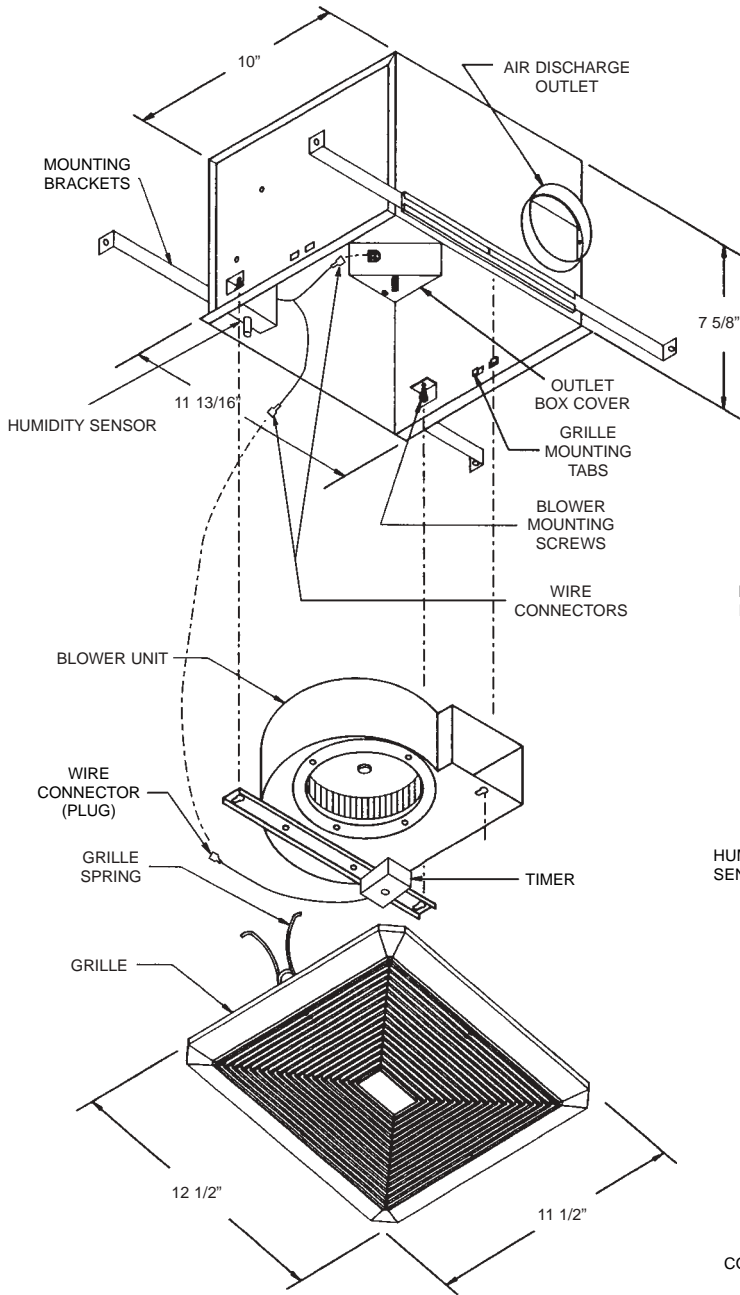

FIG. 8
2. Loosen three screws securing blower unit to housing and slide it toward outlet box. Carefully lift and tilt blower unit and remove from housing. Pull motor plug from receptacle. Pull humidity sensor plug from receptacle if applicable. See Figs. 8 & 9.
8. Push humidity sensor plug into receptacle, if applicable. Push blower motor plug into receptacle and carefully replace blower unit. Reverse procedure as noted. Tighten screws securely. See Figs. 8 & 9.
10. Squeeze spring on plastic grille and insert into tabs located in housing. See Figs. 8 & 9. Press grille firmly into place.